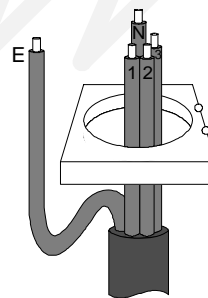

Fig.2
1. Always ensure the Earth conductor DOES NOT pass through the toroid. If it is unavoidable, the Earth must be routed back through the toroid again and around, as shown in Fig.2 below.